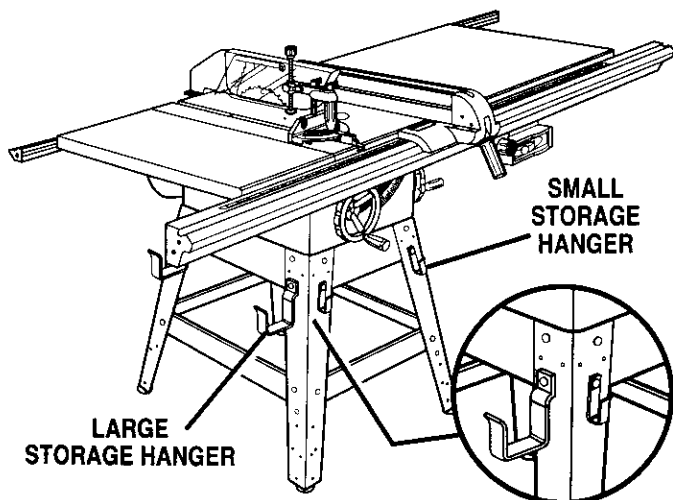

Fig. 19
See Figure 19.
- On the front at the top of the leg stand, remove one of the lower carriage bolts. See Figure 19.
- Install the large hangers on the left side. See Figure 19.